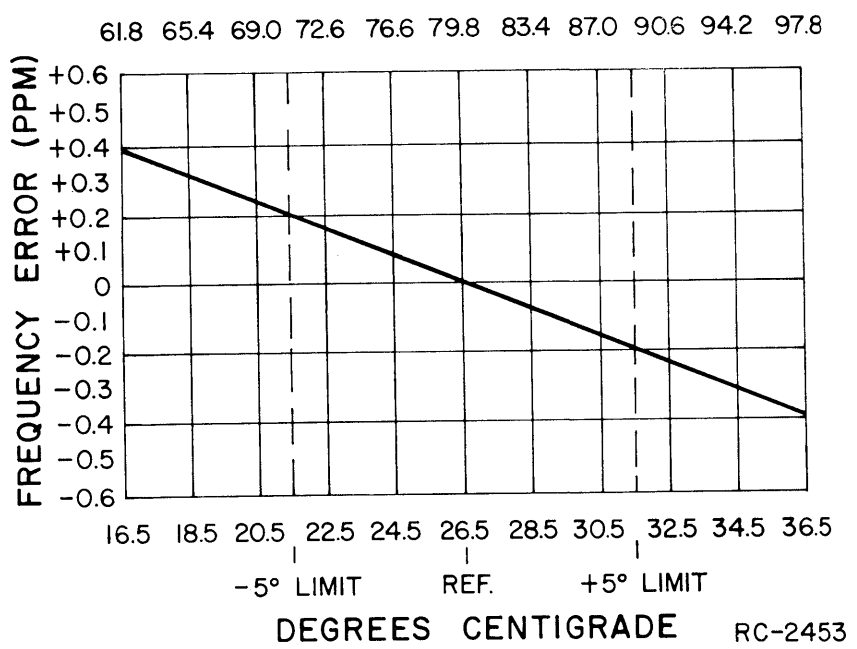

Figure 7 - Frequency Characteristics Vs. Temperature
To set ICOM frequency using "beat frequency" method, the temperature should be at 26.5°C (79.8°F). If the temperature is not 26.5°C, then offset the "ON FREQUENCY" signal (at the receiver input), as a function of actual temperature, by the frequency ERROR FACTOR (in PPM) shown in Figure 7.
2. Maintain the radio at 26.5°C (79.8°F) and offset the oscillator, as a function of actual temperature, by the frequency error factor shown in Figure 7.
B. To hold setting error to 20.3 PPM (which is considered reasonable for 2 PPM ICOMS): Maintain the unit at 26.5°C (79.8°F) and offset the oscillator, as a function of actual temperature, by the frequency error factor shown in Figure 7.